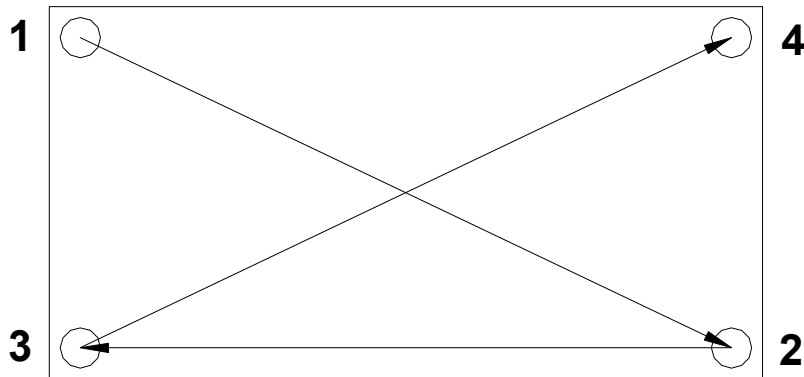

Figure 4 - Torque Sequence
- Torque pattern: Loosely insert all screws before torquing. If the power module has four mounting studs, it is recommended that the torque sequence be in a crisscross pattern as shown in Figure 4. For modules with only two mounting studs, there is no torque sequence.